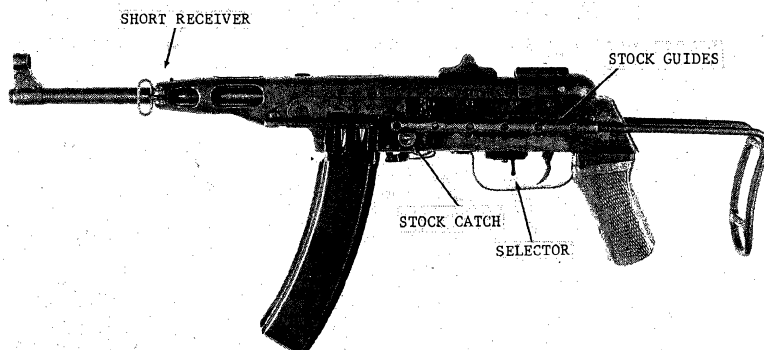

Figure 42. North Vietnamese K-50M submachinegun.
- (1) Sling.
- (2) Two-section T-handled cleaning rod.
- (3) Standard Soviet pattern two compartment oil and cleaning solvent container.
a. The K-50 modified submachinegun (fig 42) is an extensively altered PRC type 50 submachinegun that is used by the Viet Cong in Vietnam. The most obvious changes are the sliding metal butt stock, the short barrel jacket that eliminates the original muzzle brake-compensator, and the wooden pistol grip. The lower receiver has also been reshaped.
The K-50 Modified submachinegun is operated and functions exactly like its parent weapon, the PRC Type 50 submachinegun. See paragraphs 57, 58, and 59 for information. An additional feature, the telescoping stock, is operated by pressing in the stock catch at the front of the guides (fig 42) and sliding the stock to the desired position.